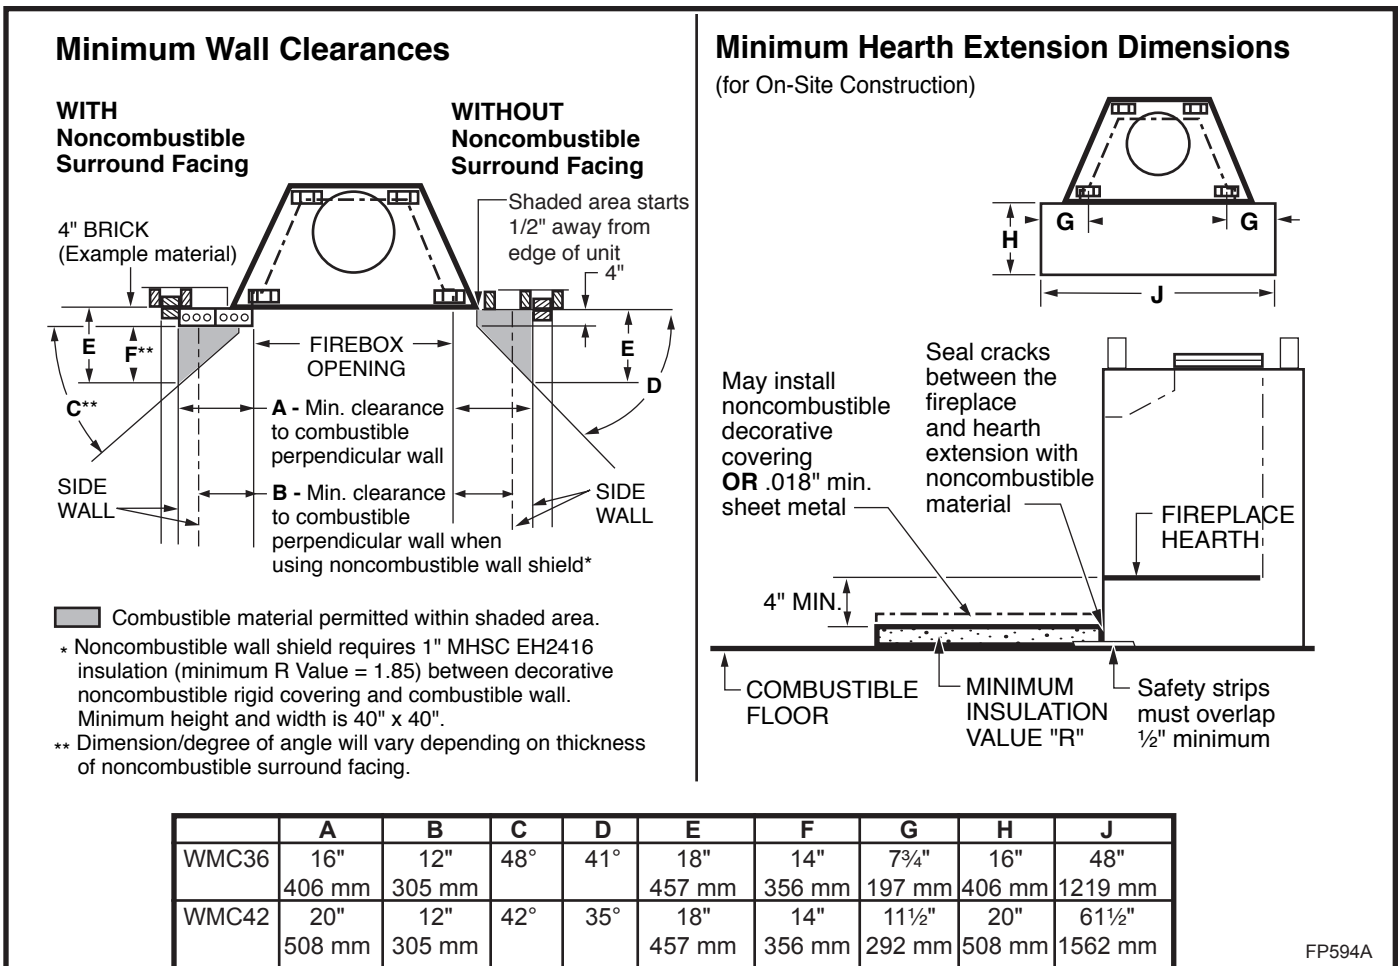

Fig. 24 Combustible side wall protection and hearth extension dimensions.
Adjacent combustible side walls that are within the minimum dimensions shown in Figure 24 of fireplace opening must be protected with MHSC Wall Shield Model SP40 or a specifically built wall shield described below.
A hearth extension is required to protect a combustible floor in front of the fireplace. Refer to Figure 24 for minimum dimensions and mounting detail.
The hearth extension described in Figure 24 must be a durable noncombustible material with a minimum (total) Rt value of 1.09; refer to Figure 25 for examples. The overall height (above a combustible floor), depth and width must be as indicated, with the extension centered to the fireplace opening.
The top of insulation must be covered with a noncombustible decorative covering **or** a piece of .018" minimum sheet metal, to protect hearth extension material. (Fig. 24)
**WARNING: HEARTH EXTENSION MUST BE INSTALLED IN ACCORDANCE WITH FIGURE 24 AND MUST NOT COVER THE BOTTOM FRONT OPENING OF THE CIRCULATING MODEL.**